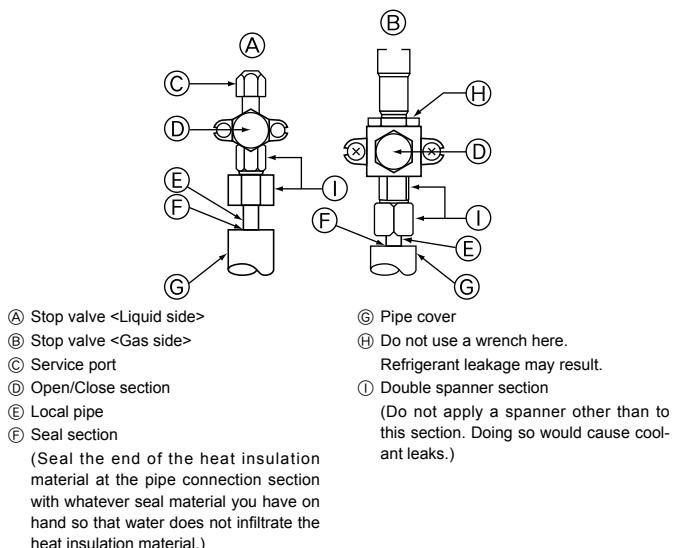

Fig. 4-5
- ⑤ Use sealant to seal the ends of the pipe cover around the pipe connection sections to prevent water from entering the thermal insulation.
4.4. Refrigerant pipe airtight testing method (Fig. 4-5)